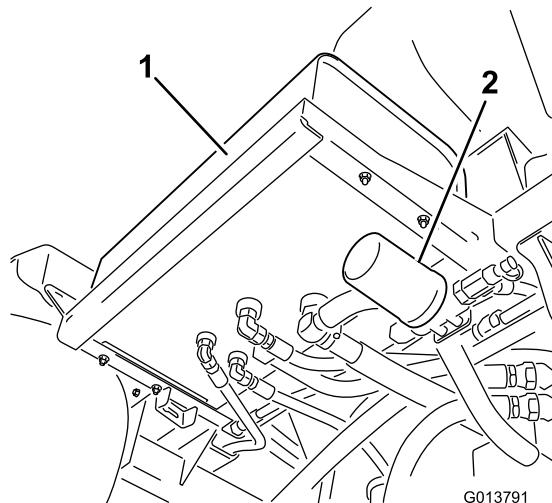
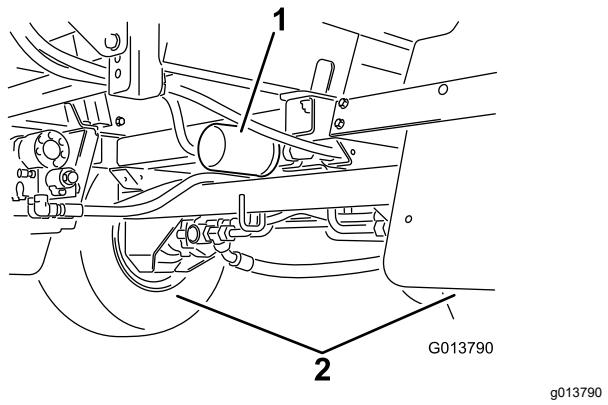

Figure 141
Figure 142
2. Locate the 2 hydraulic filters on the machine (Figure 141 and Figure 142).